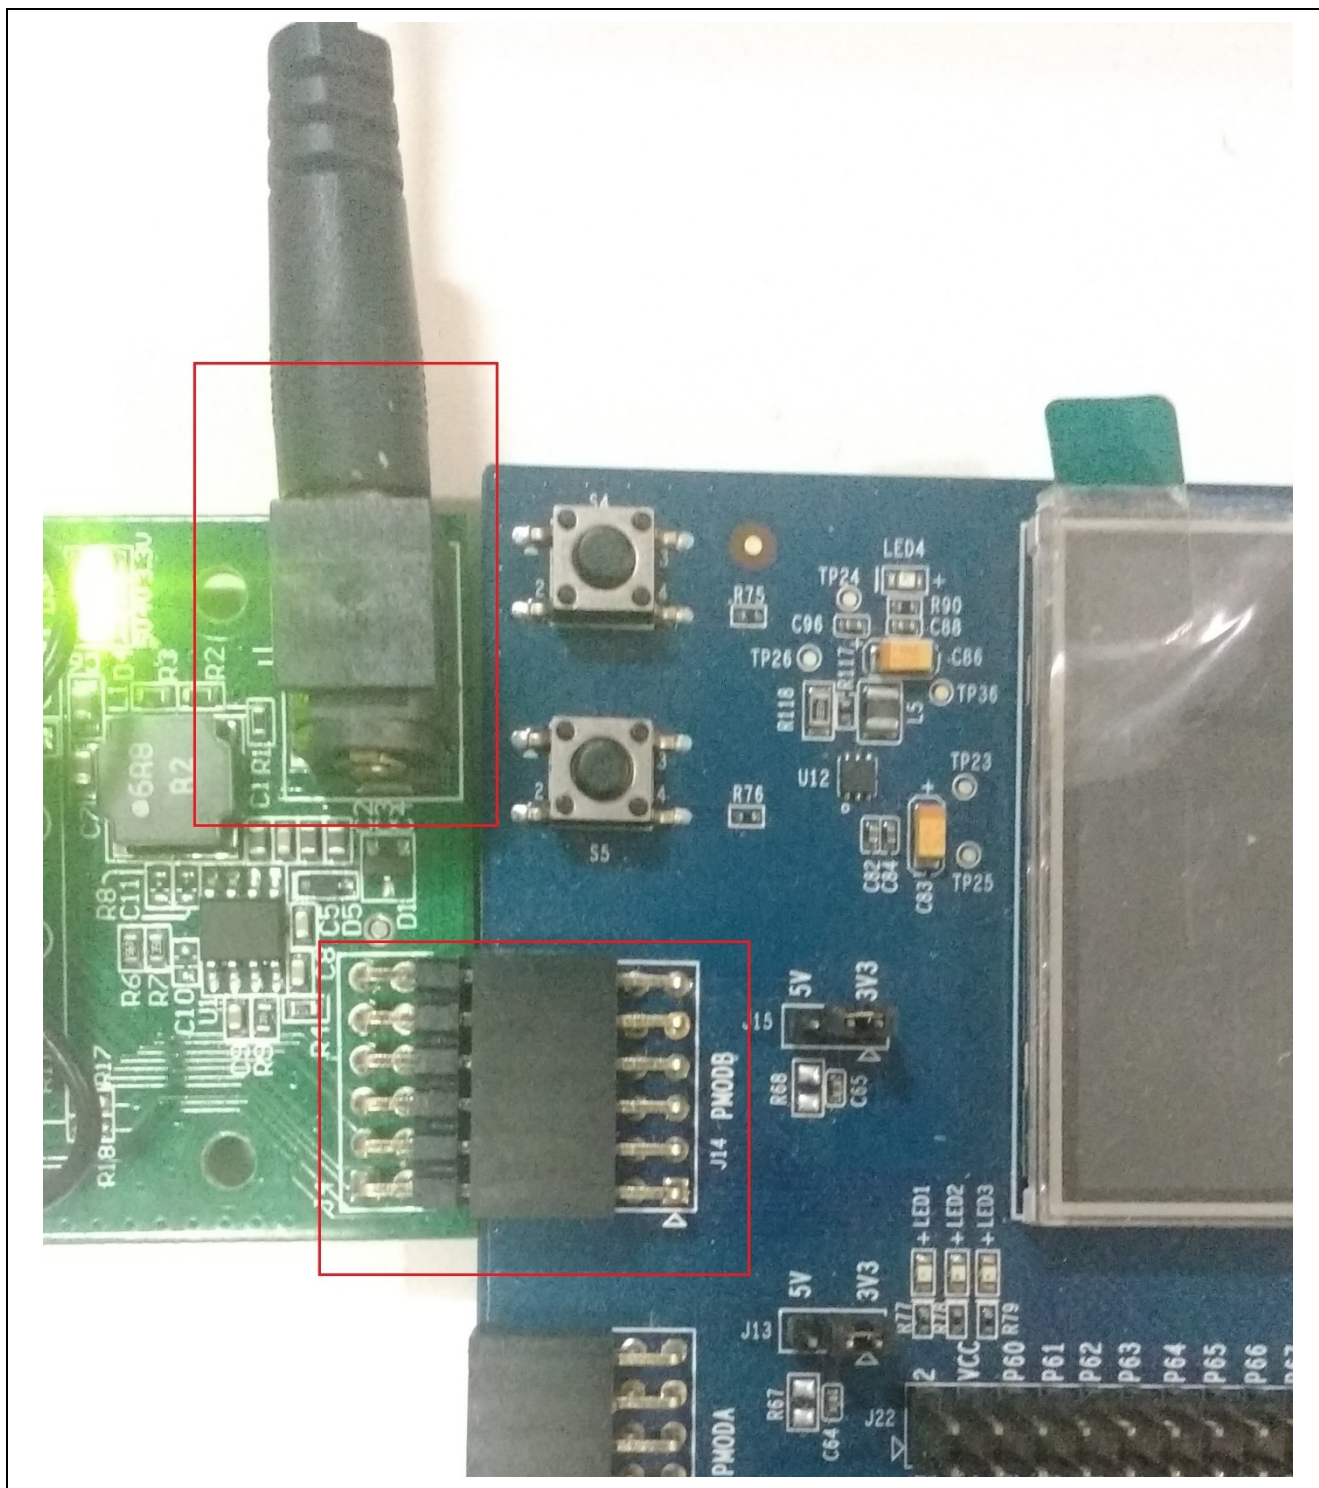

Figure 19 PMOD Connections
7. Connect the Cellular module to the PmodB(J14). Also connect the external supply to the cellular module as shown in the Figure 19.